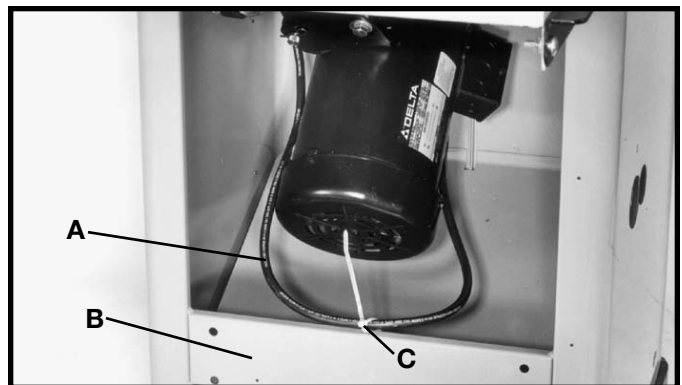

Fig. 27A
3. Fasten motor cord (A) Fig. 27A to the saw frame cross member (B), using the cable tie (C) supplied with the saw. **CAUTION:** Before tightening the cable tie, make certain that cord (A) is free of any interference from the motor or saw blade at all possible positions of the motor.
4. After the cable tie is tightened, cut off excess tail of cable tie (C) Fig. 27A.